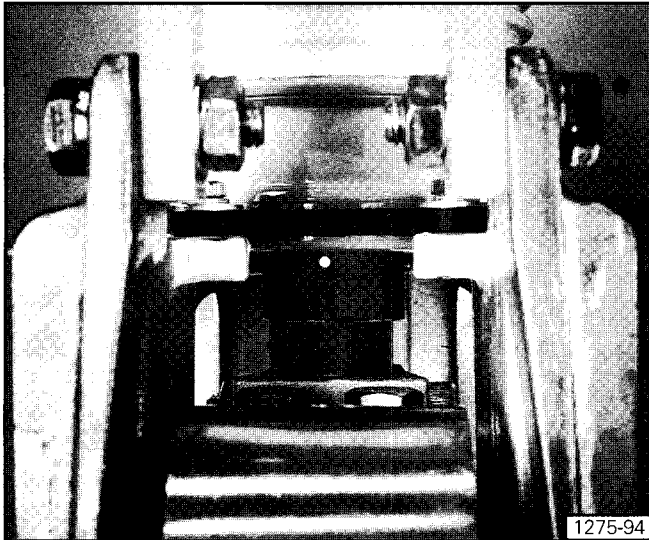

Figure 36. Contact Erosion Check Mark
3. Perform the contact erosion check. Contact erosion occurs when high fault currents are interrupted or when the vacuum interrupter is nearing the limit of its contact life. Determination of acceptable contact condition is checked by the visibility of the white erosion mark shown in **Figure 36**. The white erosion mark is located in the keyway (or slot) on the movable stem of the vacuum interrupter, near the plastic guide bushing.
- b. Observe the white erosion mark (**Figure 36**) of each pole. When this mark is visible, contact wear is within acceptable limits.